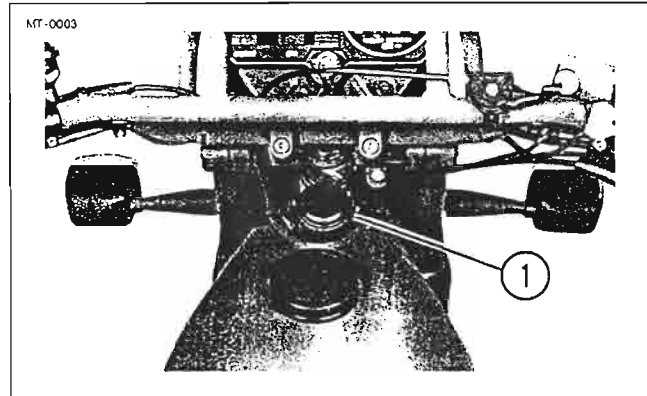

Figure 2-6. Oil Reservoir Filler Cap/Dipstick
1. See Figure 2-6. Remove oil reservoir filler cap/dipstick (1).